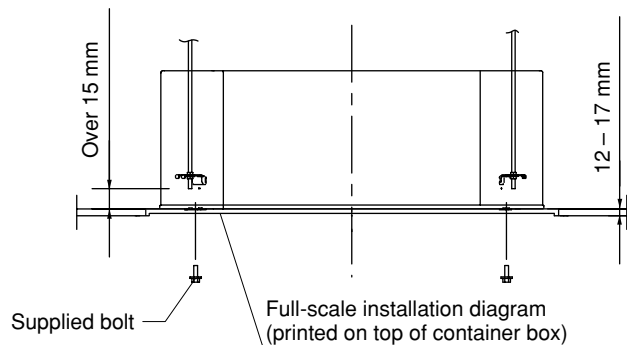

Fig. 3-51
- (1) When placing the unit inside the ceiling, determine the pitch of the suspension bolts using the supplied full-scale installation diagram. (Fig. 3-51)
- (2) The length of suspension bolts must be appropriate for a distance between the bottom of the bolt and the bottom of the unit of more than 15 mm as shown in Fig. 3-51.